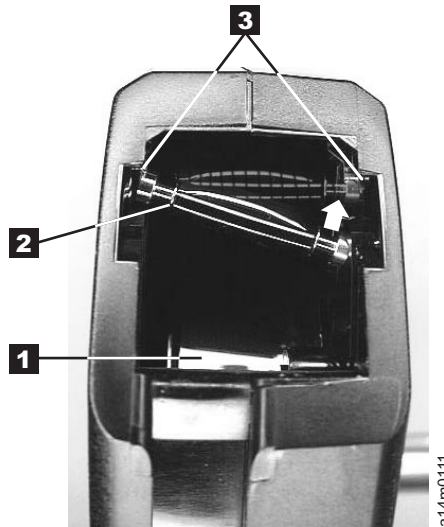

Figure 60. Placing the dislodged leader pin into the correct position. The cartridge door is open, showing the leader pin out of position.
1. Slide open the cartridge door (see **1** in Figure 60 on page 196) and locate the leader pin **2** (you may need to shake the cartridge gently to roll the pin toward the door).